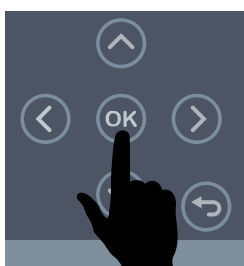

Figure 43. OK Button
1. From the View Menu on the digital controller, press the **OK button** (Figure 43).